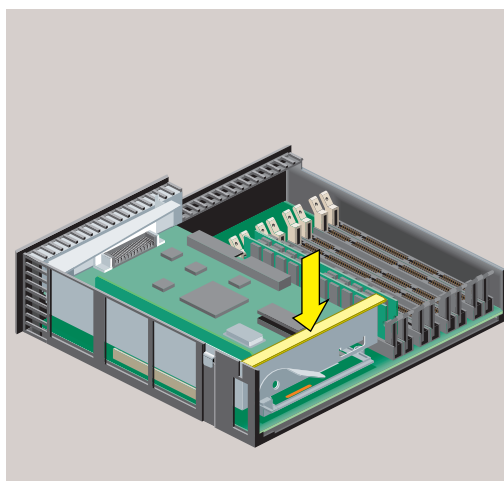

Figure 2-39 PCI Tray Seated Correctly
2. Push the tray down firmly until it is completely seated. Check that the lever returns to its starting position (Figure 2-39).